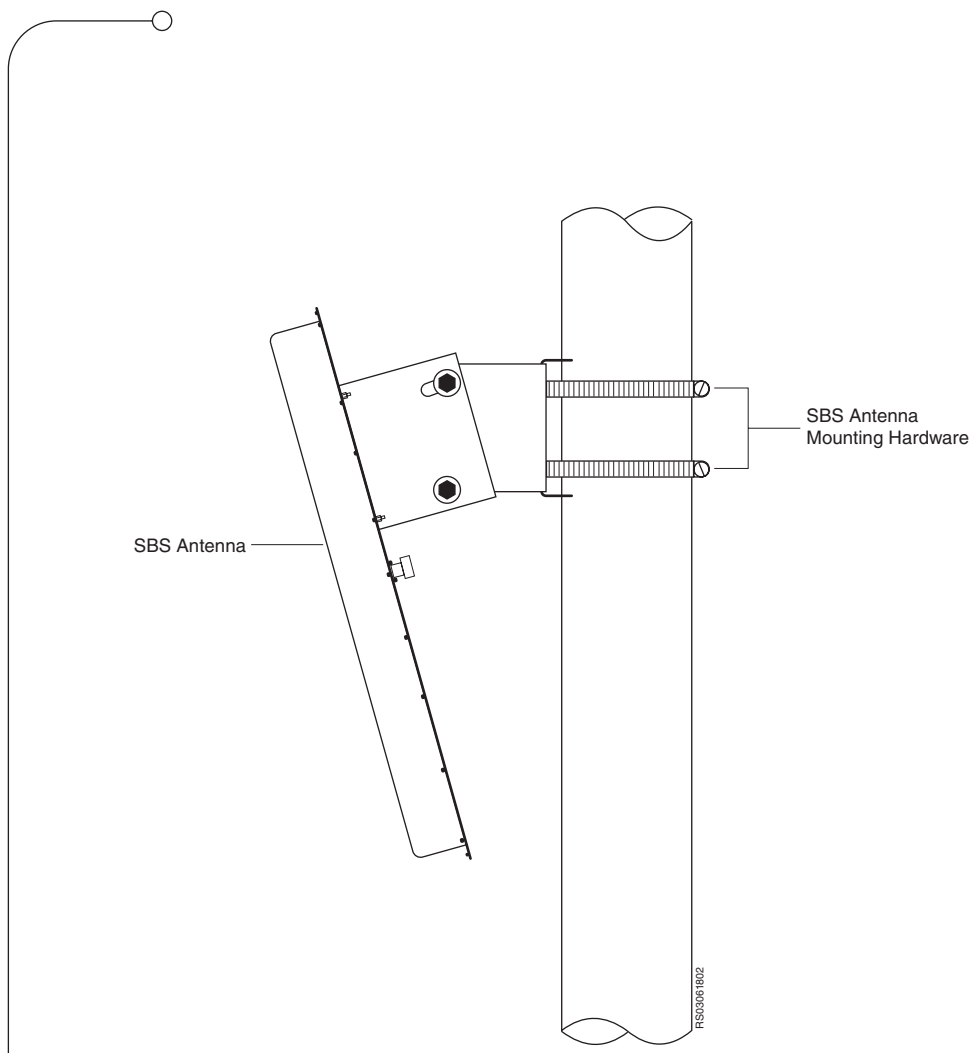

Figure 3.2 SBS Antenna Mount Example
- ▶ Secure the antenna to the pole using the mounting hardware provided, as shown in Figure 3.2 on page 25.